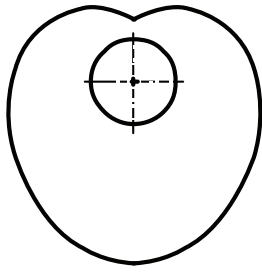
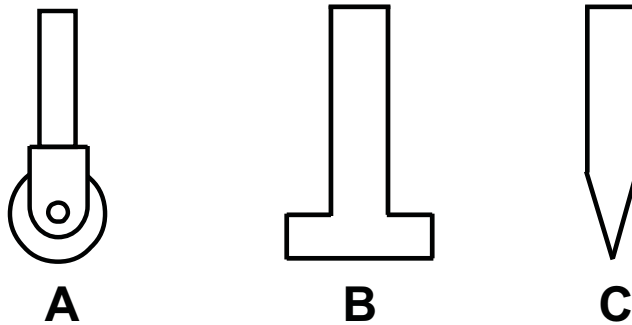

Fig. 6
Fig. 7
- (b) (i) Name the type of cam shown in **Fig. 6**. [1 mark]
- (iv) Name the three types of follower shown in **Fig. 7**.
- (v) Select a follower from **Fig. 7** which could be used with the cam shown in **Fig. 6**.